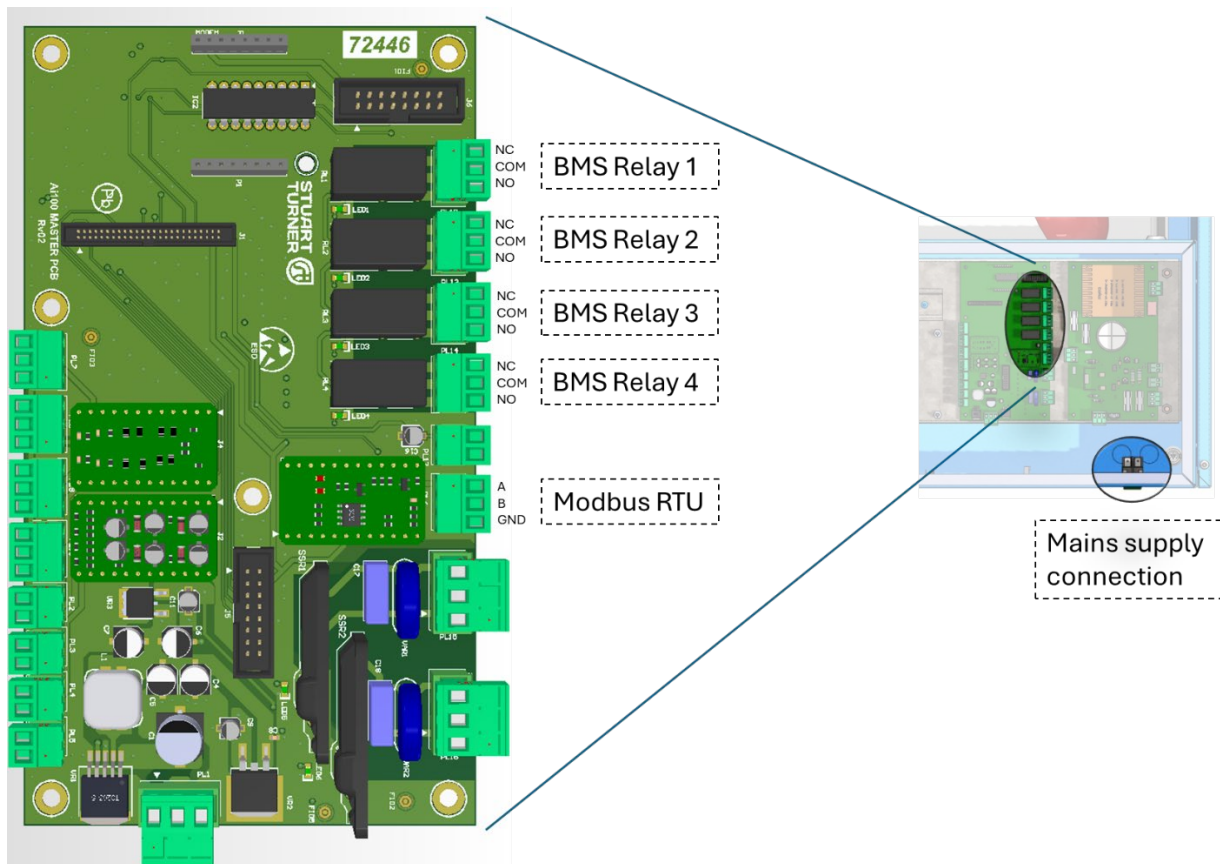

Fig 2.4 Electrical connections for Maxi AP units
- 2.2.6.4 Connect incoming electrical mains supply to identified terminals in panel (see fig. 2.4) using spade and ring terminals provided. Ensure voltages and frequency indicated on the motor nameplates and wiring diagrams correspond with supply mains data and that the supply fuse ratings are correct for the total current rating of the equipment.
- 2.2.6.5 Make any BMS connections to terminals as shown in fig 2.4 inside control panel. The assignment of relays to alarms can be chosen in the parameter menu.